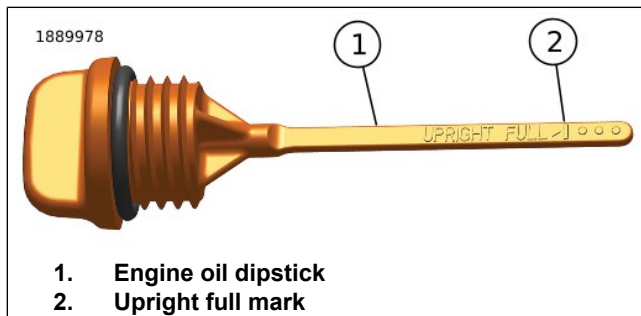

Figure 53. Engine Oil Dipstick (upright full mark)
- e. Figure 53 Oil level must register to the upright full mark (2).
16. See Figure 53. Add only enough oil to bring the level to the add quart mark.